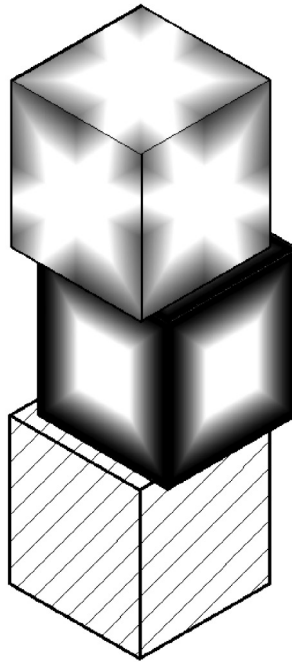

Figure 14
- 8 Figure 14 shows a set of stackable cubes for a childrens' activity pack that are manufactured from copier paper.